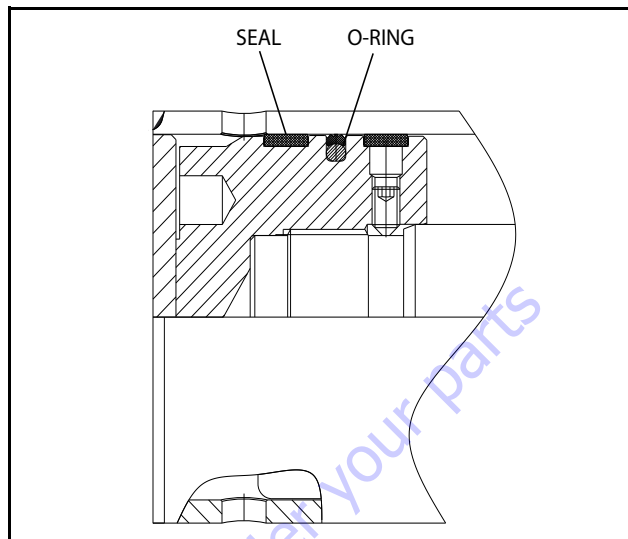

Figure 5-79. Piston Seal Kit Installation (Prior to SN 0300142664)
8. Place a new o-ring in the inner piston diameter groove. (See Figure 5-79.)
9. Place new seals in the outer piston diameter groove. (A tube, with I.D. slightly larger than the O.D. of the piston is recommended to install the solid seal). (See Figure 5-79.)